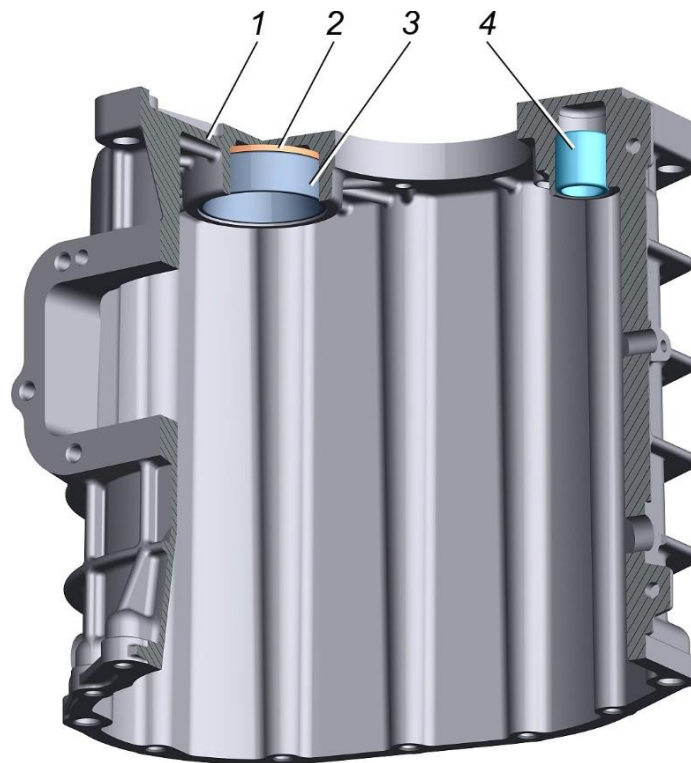

Fig. 3.24. Gearbox front housing: 1 – front gearbox housing; 2 – adjustment ring; 3 – countershaft bearing cage; 4 – linear motion ball bearing
- press linear motion ball bearings in the rear and front (see Fig. 3.24) housings flush with the housing boss end faces, as shown;
- install the selected adjustment ring 2 (Fig. 3.24) in the front housing socket;